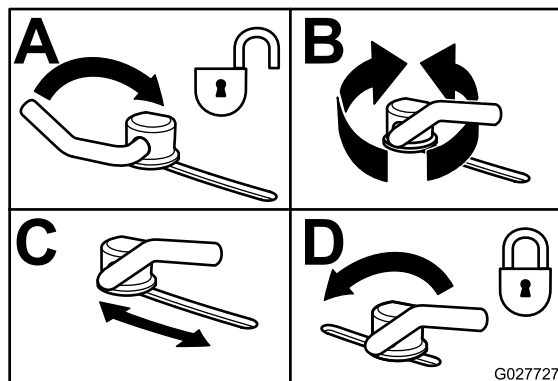

Figure 37
3. To adjust the cam locks, swing the lever up to loosen the cam lock (Figure 37).
5. Swing the lever back over to tighten the baffle and cam locks (Figure 37).